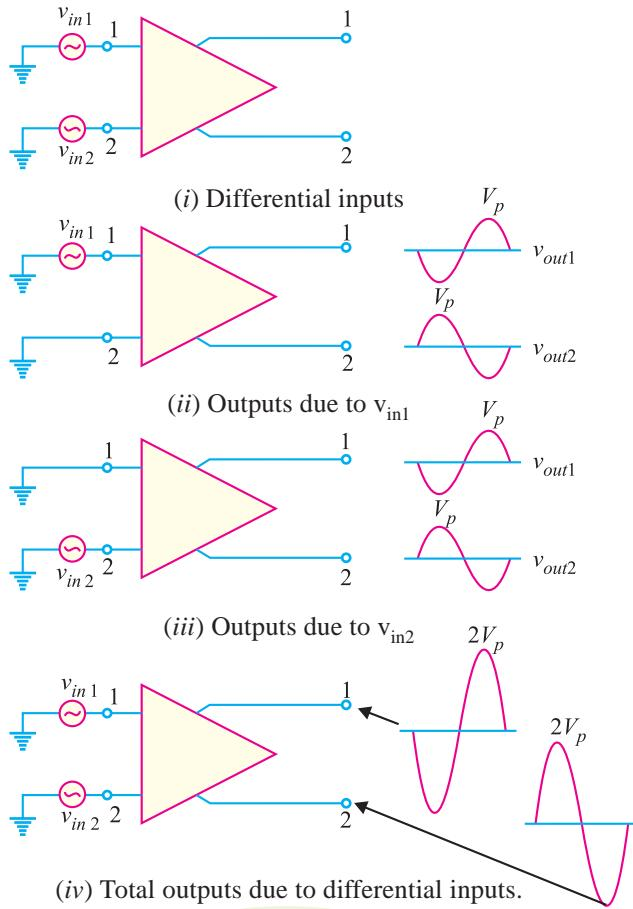

Fig. 25.10
(i) Differential input. In this mode (arrangement), two opposite-polarity (180° out of phase) signals are applied to the inputs of DA as shown in Fig. 25.10 (i).
As we shall see, each input affects the *outputs. Fig. 25.10 (ii) shows the output signals due to the signal on input 1 acting alone as a single-ended input. Fig. 25.10 (iii) shows the output signals due to the signal on **input 2 acting alone as a single-ended input. Note that in Figs. 25.10 (ii) and (iii), the signals on output 1 are of the same polarity. The same is also true for output 2. By superimposing both output 1 signals and both output 2 signals, we get the total outputs due to differential inputs [See Fig. 25.10(iv)].
* Note that in all the Figures in Fig. 25.10, the phase of the input signal is given in the circle and the phase shift in the output signal is given at the output terminals. Thus in Fig. 25.10 (ii), the output signal at terminal 1 is 180° out of phase with the input signal. On the other hand, the output signal at terminal 2 is in phase with the input signal.
** Note that a DA amplifies $(v_1 - v_2)$. For Fig. 25.10 (ii), $v_{out1} - v_{out2} = v_{in1} - 0 = v_{in1}$. For Fig. 25.10 (iii), $v_{out1} - v_{out2} = 0 - v_{in2} = -v_{in2}$.